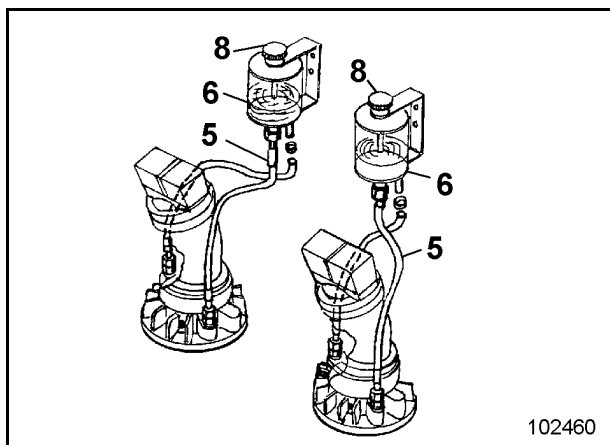

Fig. 3-98:
The gearbox is vented through cap (8, Fig. 3-98:).
- Unscrew cap (8, Fig. 3-98:) and fill in new oil through expansion tank (6). The expansion tank (6) must be filled with gearbox oil up to abt. $\frac{1}{3}$.